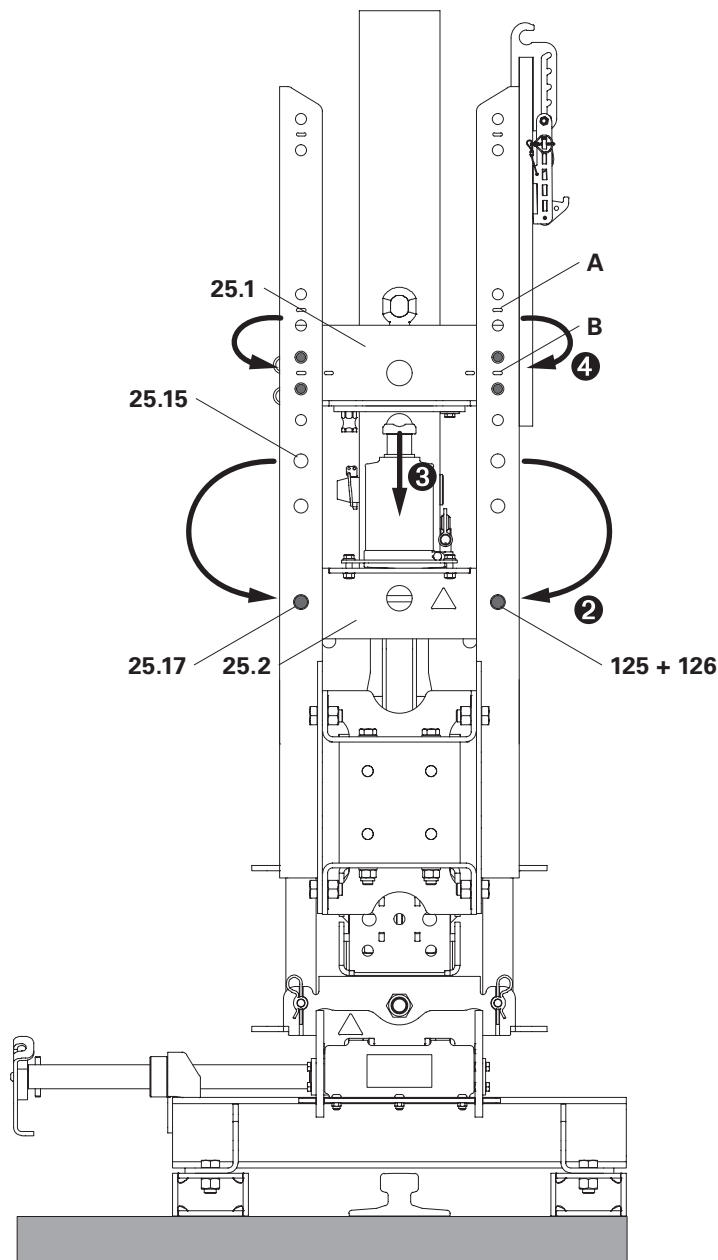

Fig. D2.13
2. Secure the cross girder (25.2) at the moving position (25.17) in the liftframe with filler pin \varnothing 26 mm (125) and Cotter Pin 5/1 ga (126).
4. Remove the main beam (25.1) from the top position (A) of the liftframe and install it in the bottom position (B) or intermediate position.
5. Carefully raise the Hydr. Jack until the filler pins (125) are free of load in the cross girder (25.2).
6. Remove filler pins \varnothing 26 mm (125) from the cross girder and insert them in the parking position (25.15) with Cotter Pins 5/1 ga (126).
7. Continue with the lifting procedure. (Fig. D2.13)